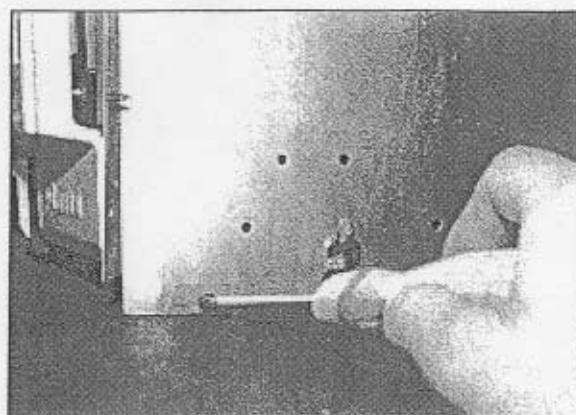
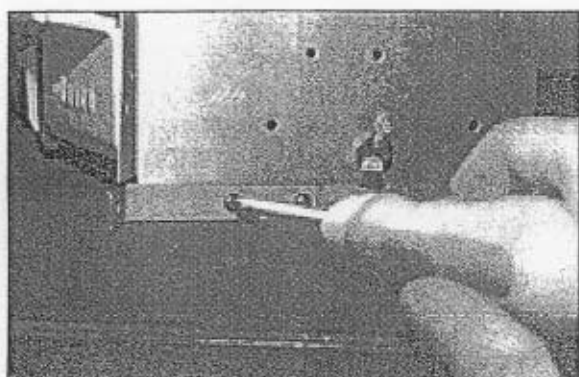

Figure 10a
Figure 10b
A. Remove the front screw in the bottom pan. See Figure 10a. Attach the side cast bracket using the front two holes in the bottom pan. See Figure 10b.